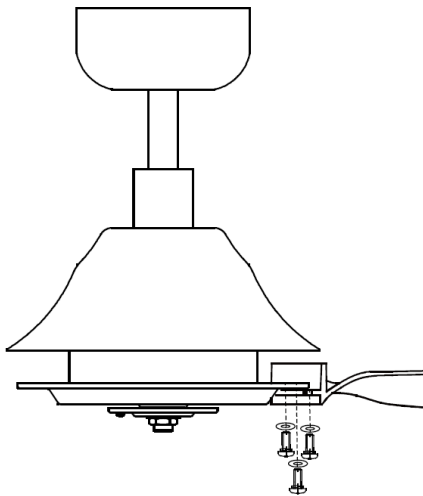

Fig. 10
1. Insert the blade screws through the blade then secure the blade to the motor by tightening the 3 screws. **Fig.10**